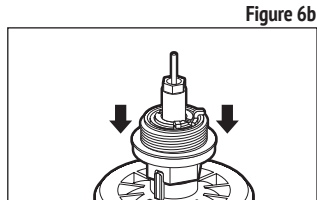

Figure 6b
3. Push the 3/4 in. threaded adapter down towards the actuator to ease the tension on the retainer clip (see Fig. 6b).